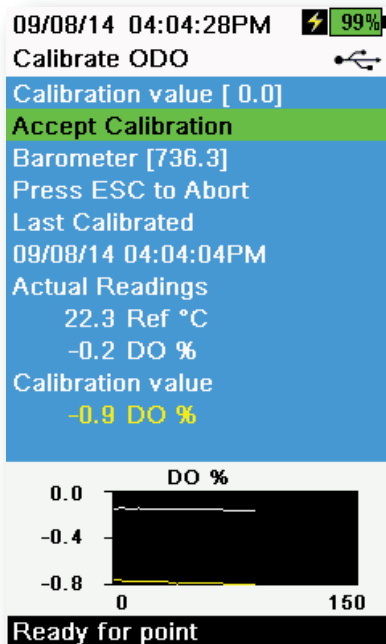

Figure 49 Calibrate ODO zero point
3. Observe the actual measurement readings for stability (white line on graph shows no significant change for 40 seconds), then select **Accept Calibration** (Figure 49). "Calibration successful!" will be displayed in the message area.